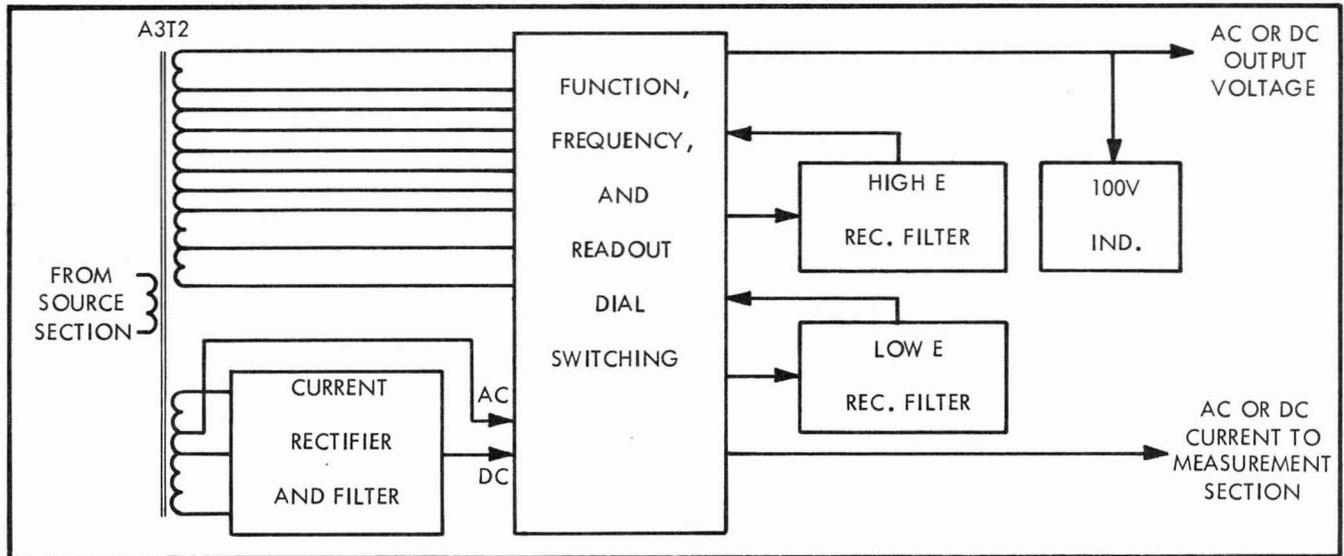

Figure 3-3. OUTPUT SWITCHING BLOCK DIAGRAM
3-24. GENERAL. As shown in Figure 3-3, the output switching section consists of an output transformer with multi-tapped secondary windings, a rectifier circuit for dc current operation, two rectifier-filter circuits for high and low dc voltage operation, the OUTPUT EXCEEDS 100V indicator circuit, and a switching network. Referring to the schematic, the high voltage rectifier is a bridge rectifier circuit consisting of CR7 through CR18 followed by a low pass LC pi-filter. The low voltage rectifier is a four diode bridge consisting of CR3 through CR6 also followed by an LC pi-filter. Both of these bridges are located on the 100V Indicator Printed Circuit Board Assembly which also contains the 100 volt indicator circuitry. DC current is supplied from the full-wave rectifier-filter circuit of CR1, CR2, L1, and C8, all mounted on the main chassis A3. AC current is supplied by another secondary winding for the current rectifier-filter circuit. DC voltages from 100 to 999.999(10) volts (front-panel readout) are provided by the high voltage rectifier circuit and the appropriate transformer taps. DC voltages from 3 to 99.999(10) volts (front-panel readout) are provided by the low voltage rectifier-filter circuit and appropriate transformer taps. DC voltages from 1 mv to 2.999(10) volts are provided by the current rectifier-filter circuit through a resistive divider consisting of A3A3R9, and A2R2 through A2R12. AC voltages from 1 volt to 1000 volts are provided by the transformer taps. Below 1 volt ac, a tap on the transformer supplies the resistive divider A2R3 through A2R12 from which these voltages are selected. Actual tap selection, in either ac or dc voltage operation, is made automatically by the readout switch corresponding to only the first significant digit of the value to be set on the readout dials.